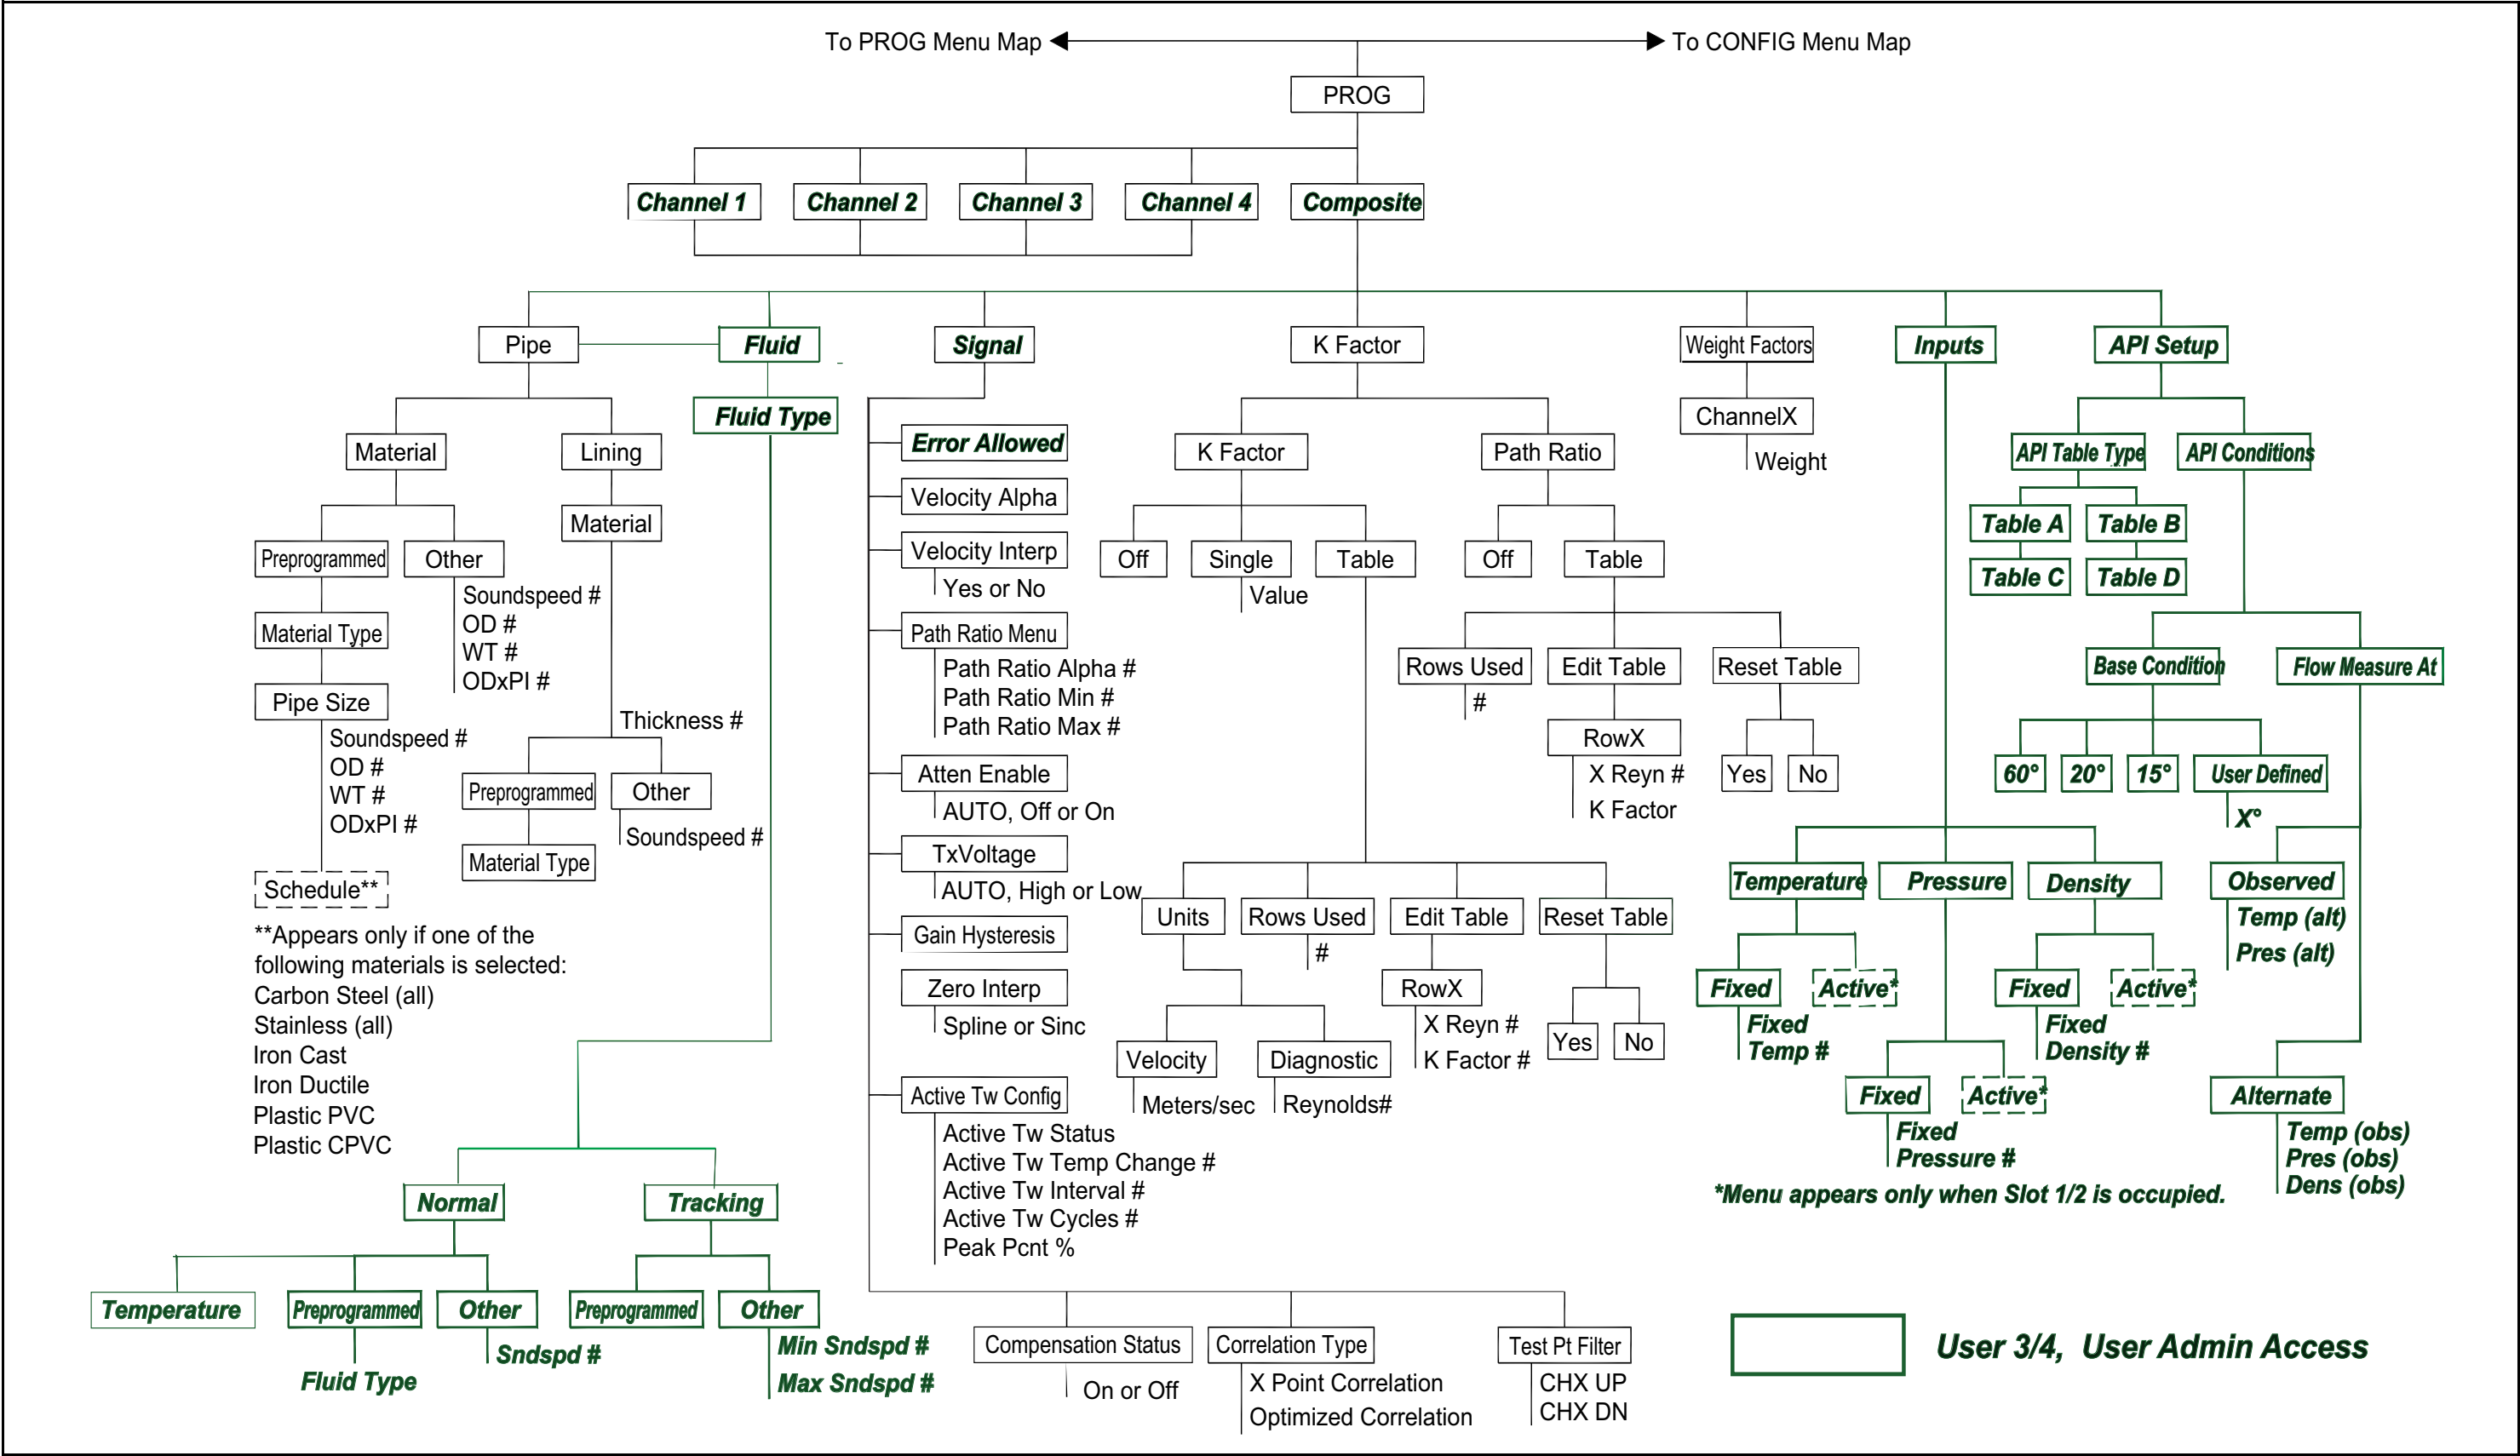

Figure 63: PROG Composite Menu Map
- Figure 63: PROG Composite Menu Map